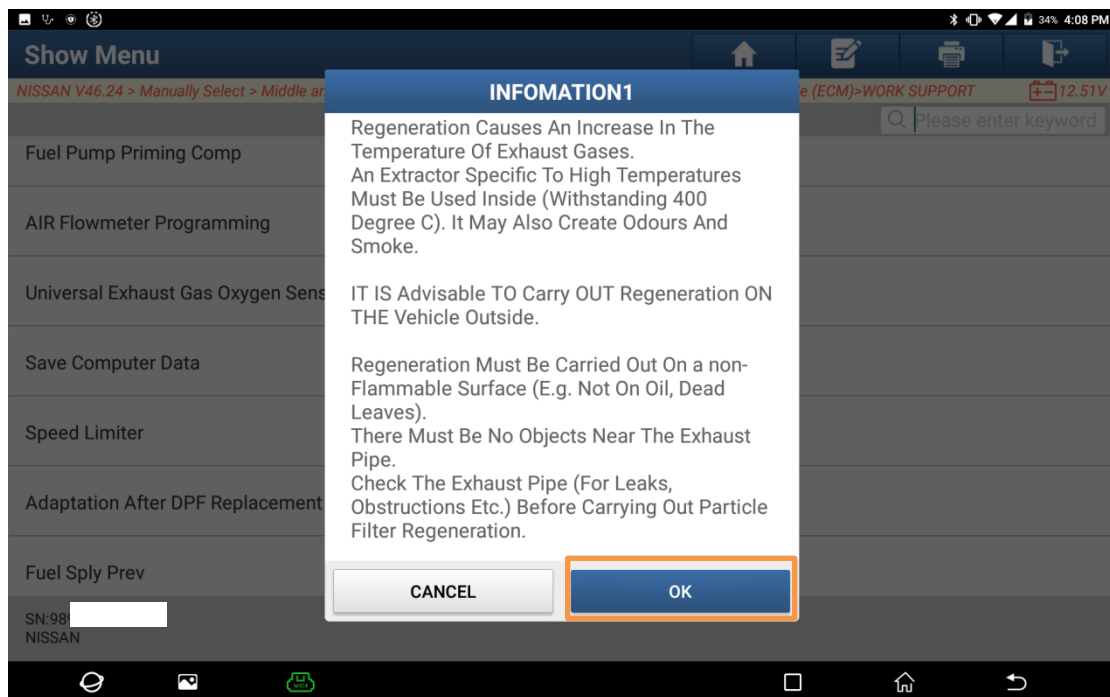

Figure 13
9. Carefully read the pop-up prompt information in Figure 13. Park the vehicle on a level ground in a well-ventilated area free of combustible materials (e.g., an outdoor, non-flammable surface). Verify that the vehicle's exhaust system components can withstand temperatures exceeding 400°C, ensure that there are no objects near the exhaust pipe or around the vehicle, and check the exhaust pipe for abnormalities such as leaks or blockages. Click [OK] to proceed to the next step.